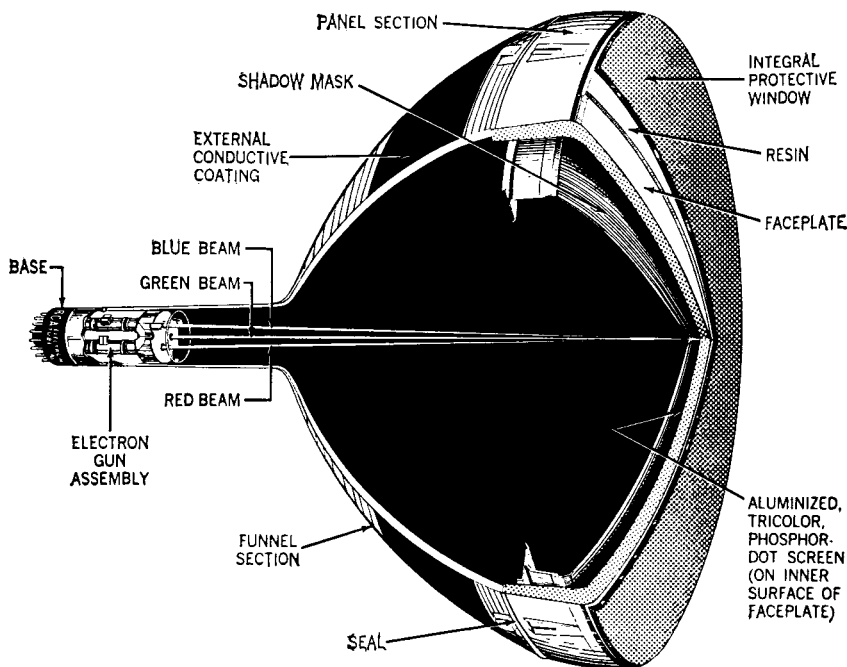

Fig. 10b—Cutaway view of color television picture tube.
of phosphor dots deposited in an interlaced pattern. Each dot of a trio is capable of emitting light in one of the three primary colors (red, green, or blue). (2) A shadow mask mounted near the screen of the tube contains over 300,000 apertures, one for each of the phosphor dot trios. This mask provides color separation by shadowing two of the three phosphor dots of each trio. (3) Three closely spaced electron guns, built as a unit, provide separate beams for excitation of the three different color-phosphor-dot arrays. Thus it is possible to control the brightness of each of the three colors independently of the other two. Fig. 10b shows a cut-away view of a color television picture tube.